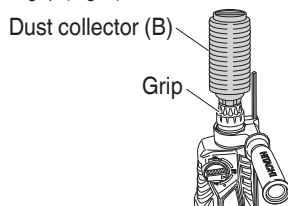

Fig. 5
7. Installation of dust cup or dust collector (B) (Optional accessories) (Fig. 4, Fig. 5)
- Installing dust collector (B)
When using dust collector (B), insert dust collector (B) from the tip of the bit by aligning it to the groove on the grip (Fig. 5)